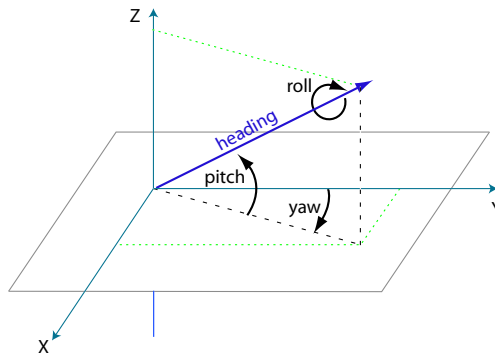
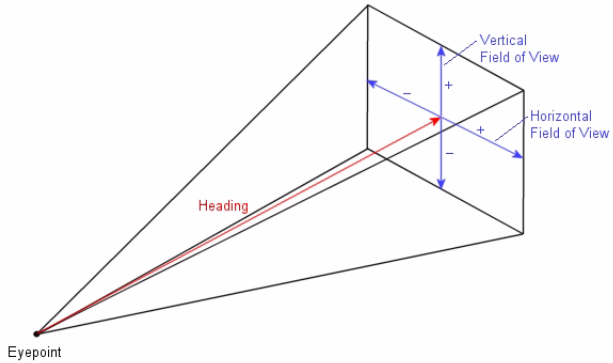

Figure 8-16 Spherical Co-ordinates
Figure 8-17 Defining Spherical Channel Extents
Spherical data is projected from an eye point, along a Heading (direction vector), with a window size defined by the horizontal and vertical Field of View values. Figure 8-16 and Figure 8-17 illustrate how spherical channel extents are defined.
**Heading (Degrees)** – Identifies the heading in terms of yaw, pitch, and roll values in degrees (Figure 8-16).